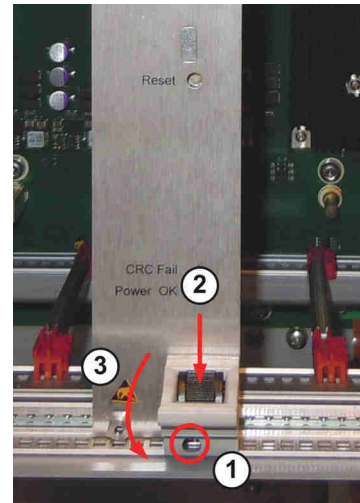

Fig. 10.22 Handle
- 3 Using tools 1/4 or tool 9, loosen the screws in the upper and lower handle, marked with 1 in Fig. 10.22 \(p. 142\) - these two screws are fixing the module to the frame.
Release the two handles (upper handle and lower handle) by pushing the black button into the handle - marked as "2" in Fig. 10.22 \(p. 142\). While doing this simultaneously on the two handles, move the upper handle upwards and the lower handle downwards ("3"). This will pull the module out of the connector.